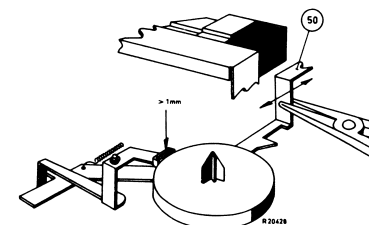

Fig 23
- When the key for playback is depressed, both brakes should be lifted simultaneously, see fig. 23. The distance between the brake shoes and the reel discs should be greater than 1 mm, see fig. 23. This can be adjusted if necessary by bending the kink in the start strip 50, see fig. 23.